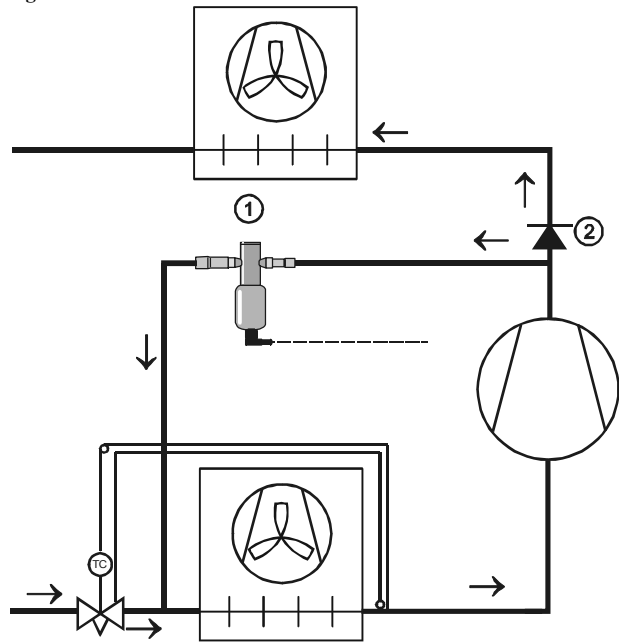
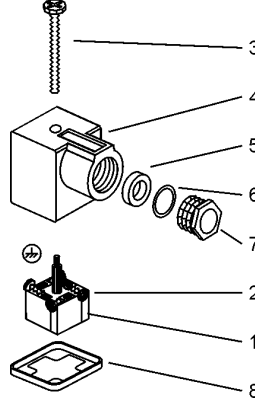
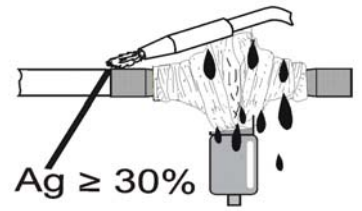

Fig. 3
Fig. 5 EX8 (old)
Fig. 8 EX4/5/6/7/8
- **(Fig. 3 A = White, B = Black, C = Blue, D: Brown): Prewired plug and cable assembly (EX5-N/L/C...)** is ready for connection to the valve. There is no specific requirement for positioning of plug on pins (see Fig. 8). Push the plug on pins on top of the valve. Rotate the nut one turn in clockwise direction and push the plug. Repeat this procedure until the plug is tighten.
- For motor check, use an ohmmeter with suitable range as shown in Fig. 3 (Fig. 5 for EX8 old).